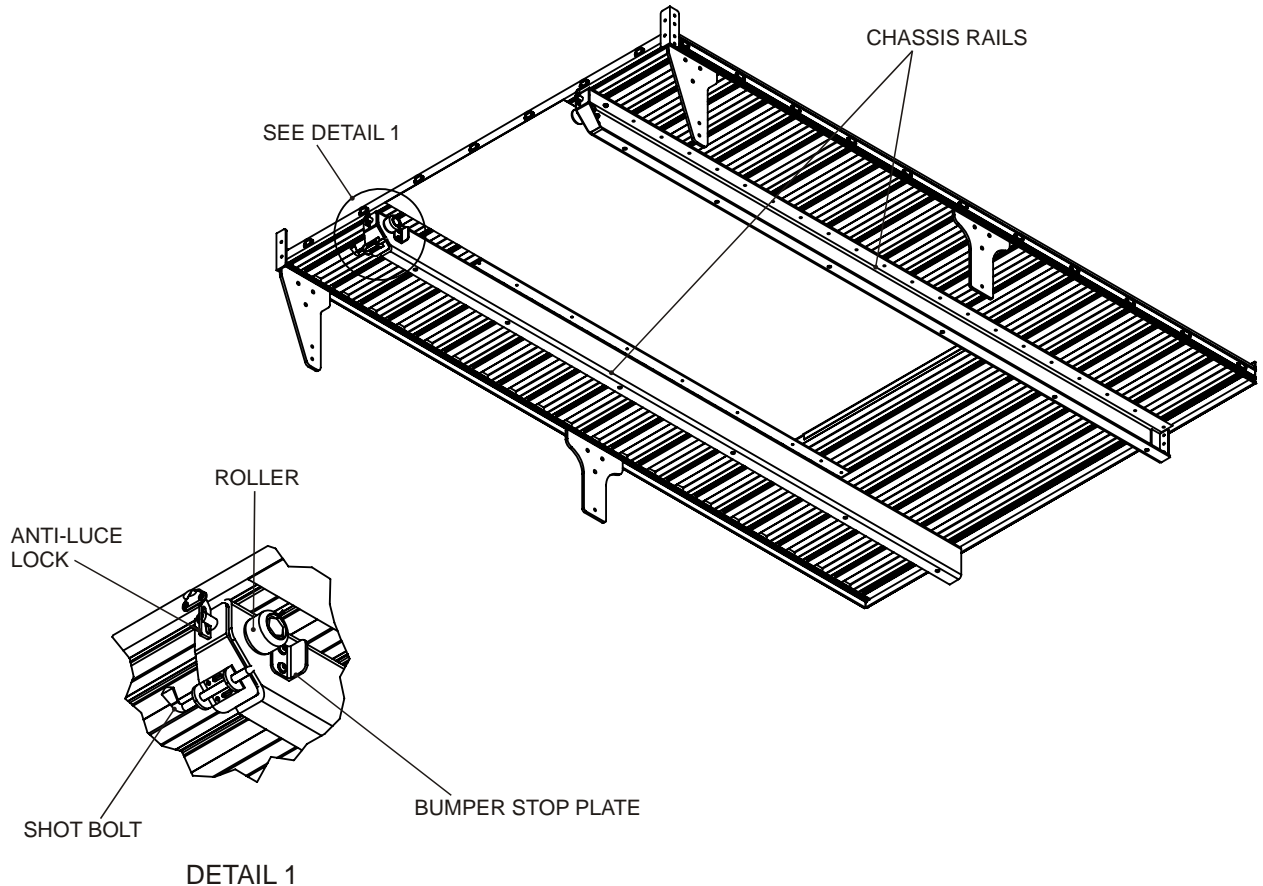

Figure 6 Under Tray Drawer Chassis Rails and Locking Devices
- 17.** Remove Under Tray Drawer (Figure 6):
19. Remove Under Tray Rollers (Figure 6):